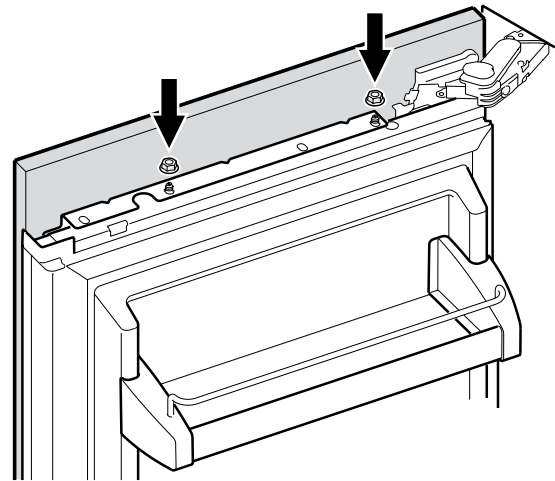

**Figure 23**
## Mounting the freezer drawer panels - Figure 23
1. Pull out the upper freezer drawer and screw on the panel with three screws at left and right hand side using the screws as shown in **Figure 23**.
4. Finally cover the gap between the drawer and the panel of both freezer drawers with the strips provided. Remove the foil from the adhesive surface of the strip and stick on the top of the appliance drawer (**Figure 23**) making sure the flexible gasket is fully inserted in the gap.